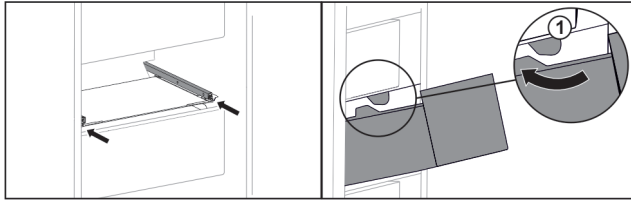

Fig. 53
- ▶ Guide drawer around the stoppers Fig. 53 (1).